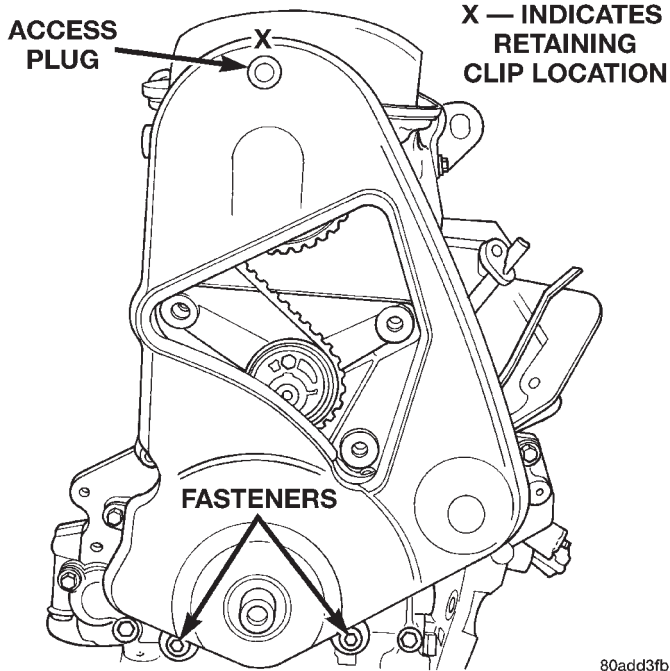

Fig. 56 Timing Belt Cover
- (9) Remove front timing belt cover (Fig. 56).